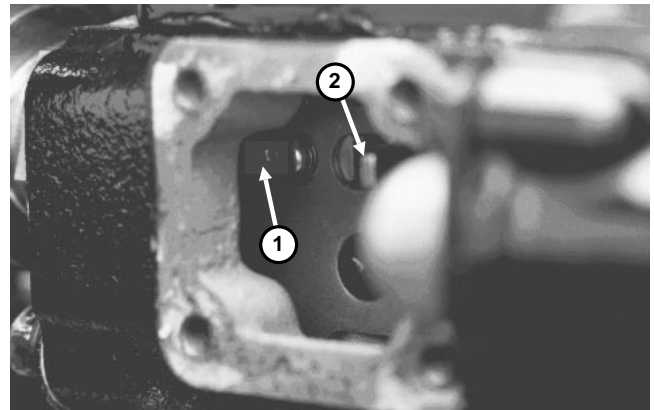

Figure 17
4. Thread the solenoid into the engine while moving the tie rod back and forth (Fig. 17). Stop screwing the solenoid into the engine when there is no free play in the tie rod.